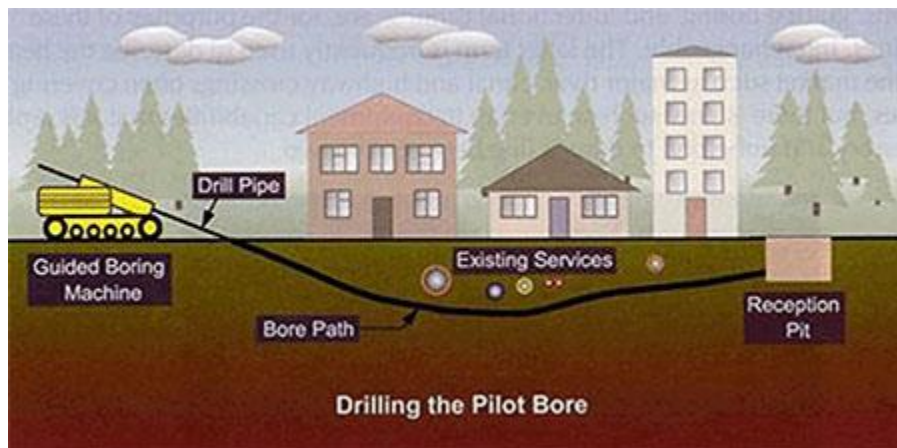

Figure 1: Drilling the pilot bore.
- **Drill the Pilot Bore:** The HDD machine operator, makes a pilot bore by running the drill stem and head through the entire drill path, from the entry point to the exit point in the reception pit. The "tracker," uses a hand-held tracking device and the potholes to ensure that the operator is drilling along the predetermined path and avoiding underground utility lines. Drilling fluid is pumped through the drill head to reduce friction, make the bore stable, and remove cuttings. Workers may change or add drill rods to extend the drill stem, as needed. (See Figure 1.)